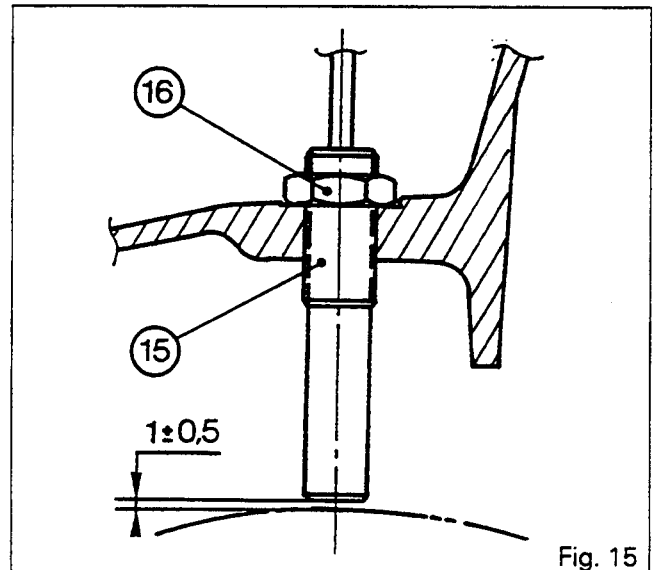

Fig. 15
- . the differential lock supply pipe (3)
- . the cable (4) (4-speed PTO, if fitted)
59. Fit the vehicle speed sensor (15) with "Loctite 577 Sensor Sealing" or equivalent (Autotronic, Datatronic tractors) (Fig. 15).
61. Unscrew the sensor 3/4 of a turn so as to obtain a clearance of approx. 1 mm between the sensor and the crownwheel (Fig. 15).
62. Tighten the nut (16) moderately (Fig. 15).